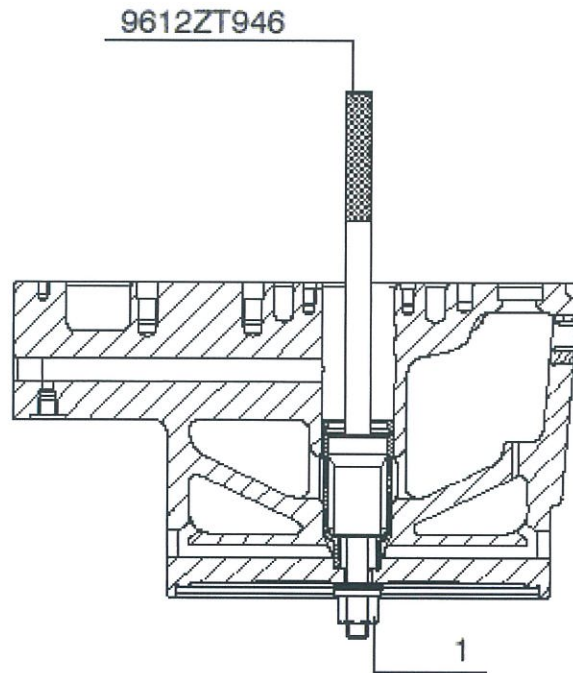

Figure 4: step 12 of the instructions
- 12) Tighten nut (item 1, Figure 4) and keep sleeve compressed in cylinder head for 5 min at least.